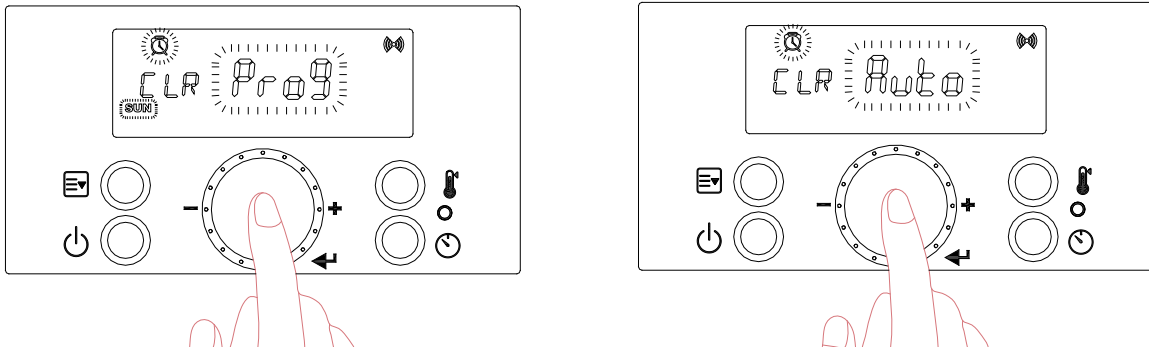

Figure 48 – Resetting the Recirculation Run Time
c. Turn the dial  to “Pro9” or “Auto”. Press  at the Recirculation Timer Type you wish to reset. See Figure 48.